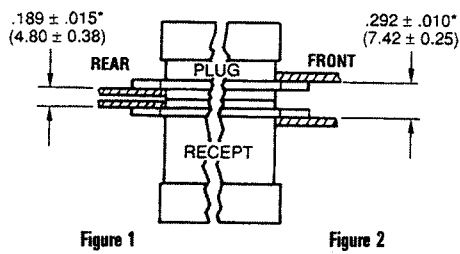

Figure 1
1. With both connectors rear mounted, use #4-40 flat head screws flush with the panel (Fig. 1).
6. With plug assembly front mounted and receptacle assembly rear mounted (plug assembly has float mounting screw), use hardware from Figure 1 for receptacle assembly.
7. With plug assembly rear mounted and receptacle assembly front mounted, use hardware from Figures 1 and 2.
9. Electrical contact engagement when mounted per Figure 1 is .046(1.17) min. / .070(1.78) max.